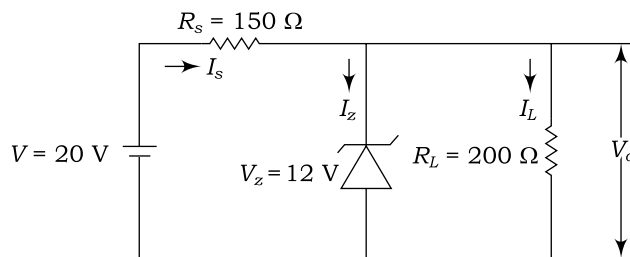

Fig. 1.38
21. A zener diode shunt regulated power supply is depicted in Fig. 1.38. Determine (a) the output voltage, (b) source current, and (c) current through the zener diode. Assume zener resistance is equal to zero.